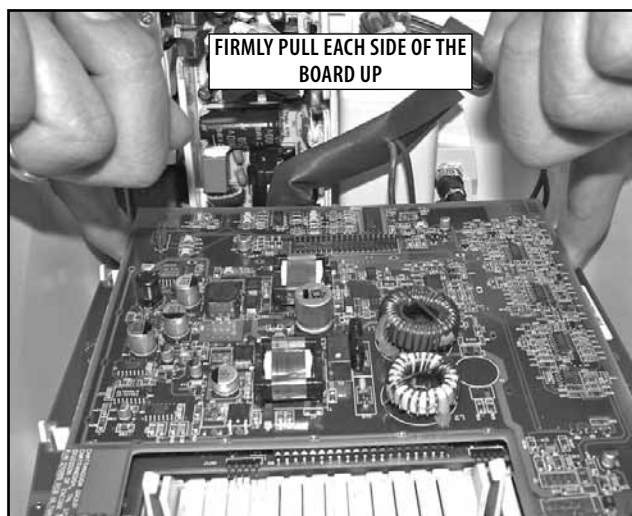

FIGURE 6.38
4. Firmly pull each side of the Ultrasound board up until the board is almost off of the Header Connector and is clear of the Stand Off Barbs. See Figure 6.38.